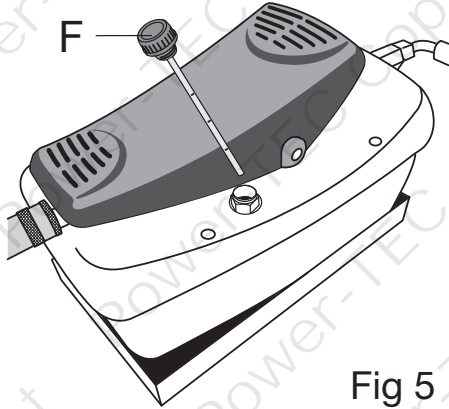

Fig 5
- Read these instructions and be aware of how to operate the Easy Lift. Prior to first use refer to **Hydraulic Pump Oil Level** (below) and **Fig. 5**.
Unless the system is leaking, there will be no loss of hydraulic oil in use. To check the oil level, ensure the wheel or sill lifter is at its lowest point (so that there is no hydraulic oil in the lifting cylinder) and use the dipstick (refer to **Fig. 5**). The correct oil level is at the top marking on the dip stick (**F**).